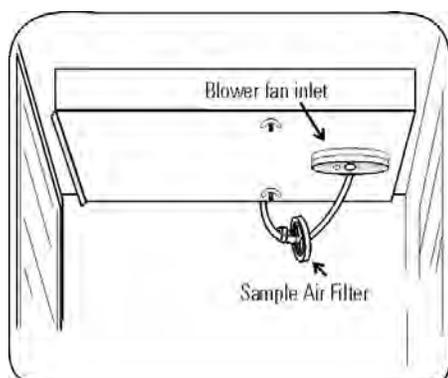

Figure 1-7
4. Insert the free end of the air sample filter tubing into the larger hole in the back of the blower scroll. See Figure 1-7 for completed configuration.